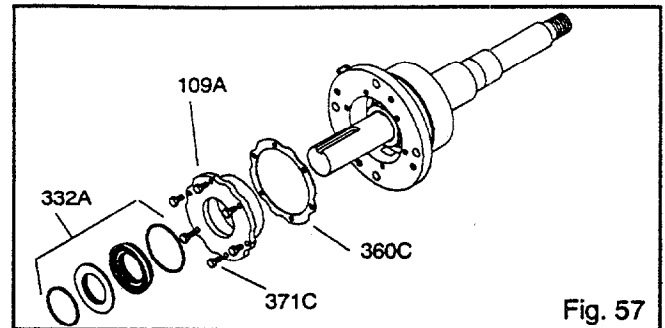

Fig. 57
7. Remove bolts (371C), end cover (109A) and gasket (360C) (Fig. 57).